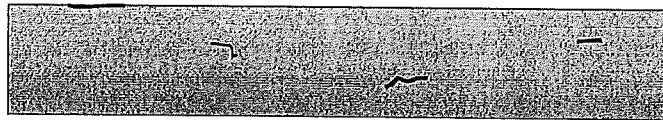

Figure 1 - Metal sheet with defects
1. A sheet of metal experienced cracks at the surface and inside the sample as shown in Figure 1. As a certified person to perform nondestructive testing (NDT), you need to perform a test. However only two types of testing available; ultrasonic and magnetic particle tests.